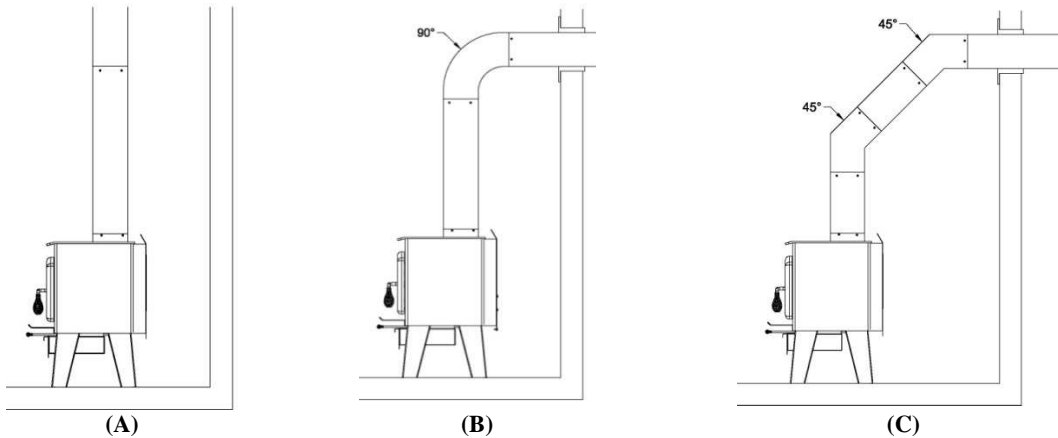

FIGURE 3.4 The use of elbows
- The assembly should be as short and direct as possible between the stove and chimney (See figure 3.4 (A)). The use of two 45 degree elbows (See figure 3.4 (C)) is often preferable to a single 90 degree elbow (See figure 3.4 (B)) because less turbulence is created in the exhaust flow and they result in less horizontal run.